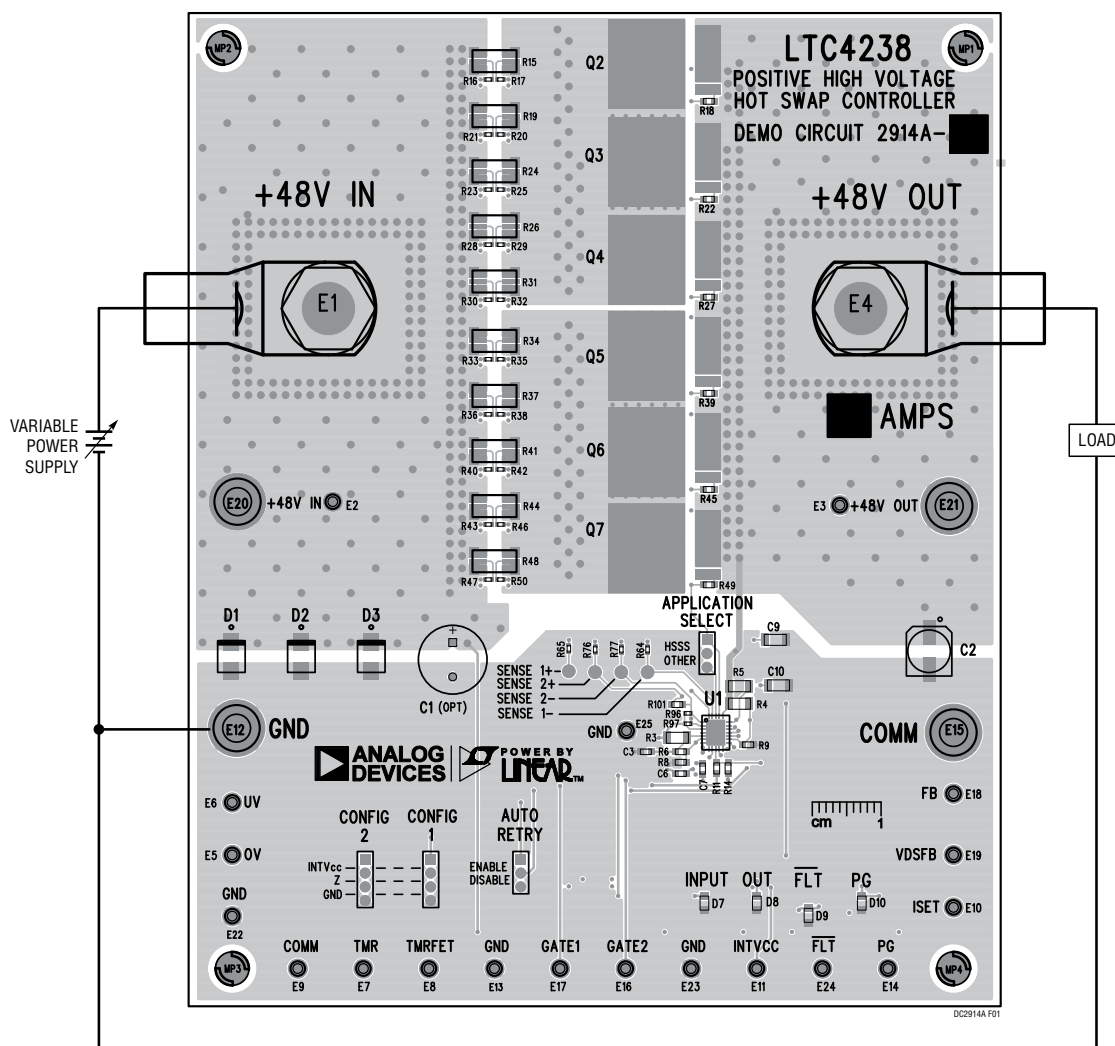

Figure 2. Proper Equipment Setup
DC2914A is easy to setup to evaluate performance of LTC4238 in various staged start modes. Refer to Figure 2 for proper equipment setup and follow the instructions below.
5. Connect an electronic load as shown in Figure 2. Set the load to “Constant Current” mode. Start increasing the load current and observe the current when the part latches off, and generates a fault signal. This value should be very close to the following OC limits: